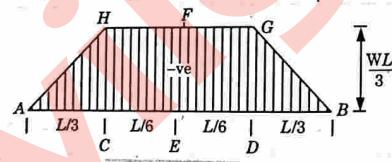

Fig. 4.13.2. BMD.
1. In this case, the bending moment diagram is shown in Fig. 4.13.2.